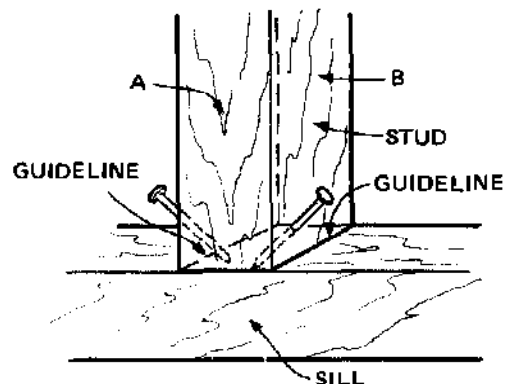

Fig. 11-29 Toenailing.
NOTE: The purpose of toenailing is to fasten a wood member to another which it butts against. See figure 11-29.
3. Place the point of the nail so that one-third the length of the nail goes through the stud, figure 11-29, and two-thirds of the length enters the sill.